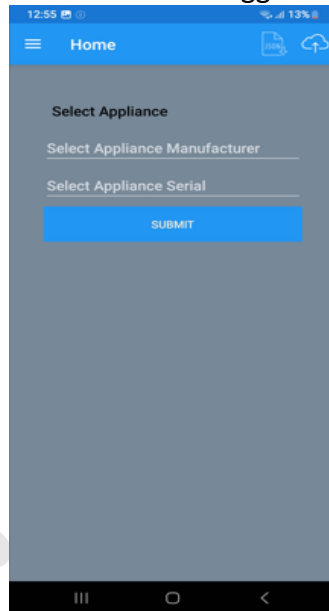

Figure 43 Mobile Application Home screen
- The home screen of the mobile application is shown in figure 43, click on the connect button to download the data from the data logger.